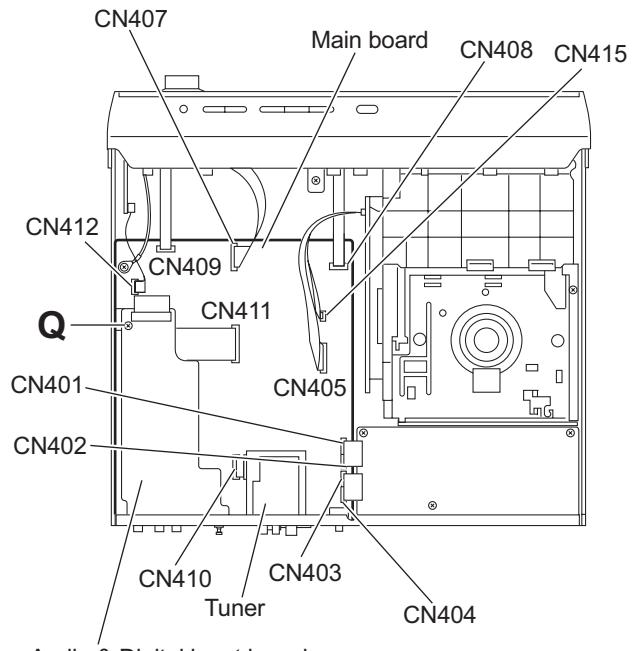

Fig.11
(See Figs.11 to 13)
(1) From the top side of the main body, disconnect the card wires from the connectors (CN405, CN407, CN410 to CN412, CN415) on the main board (See Fig.11.)
(2) Disconnect the parallel wires from the connectors (CN401 to CN404, CN408, CN409) on the main board. (See Fig.11.)
(3) Remove the screw **Q** attaching the audio & digital input board. (See Fig.11.)